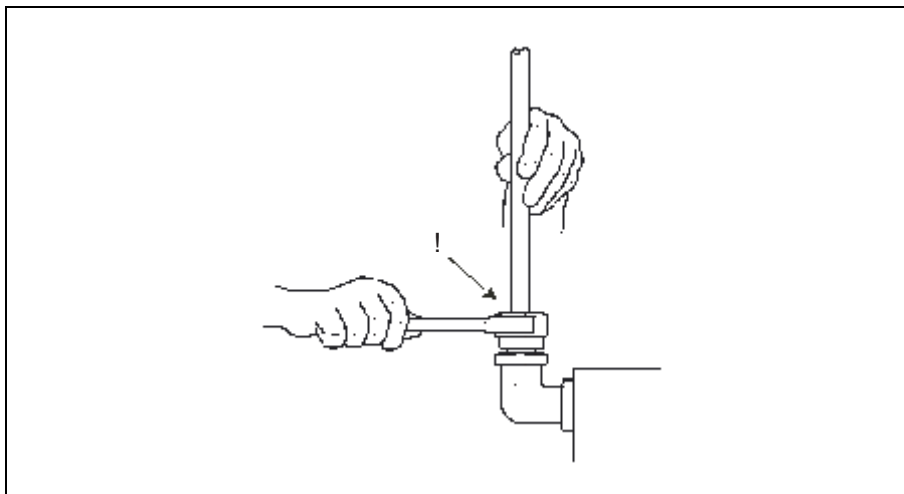

Figure 8.7 A mark on the nut simplifies the specified torque
4. The ring will now have gripped the pipe, and no longer needs to be pressed against the shoulder. Complete the fitting with an additional $\frac{3}{4}$ turn of the nut. A mark on the nut simplifies following the specified torque, see figure 8.7.